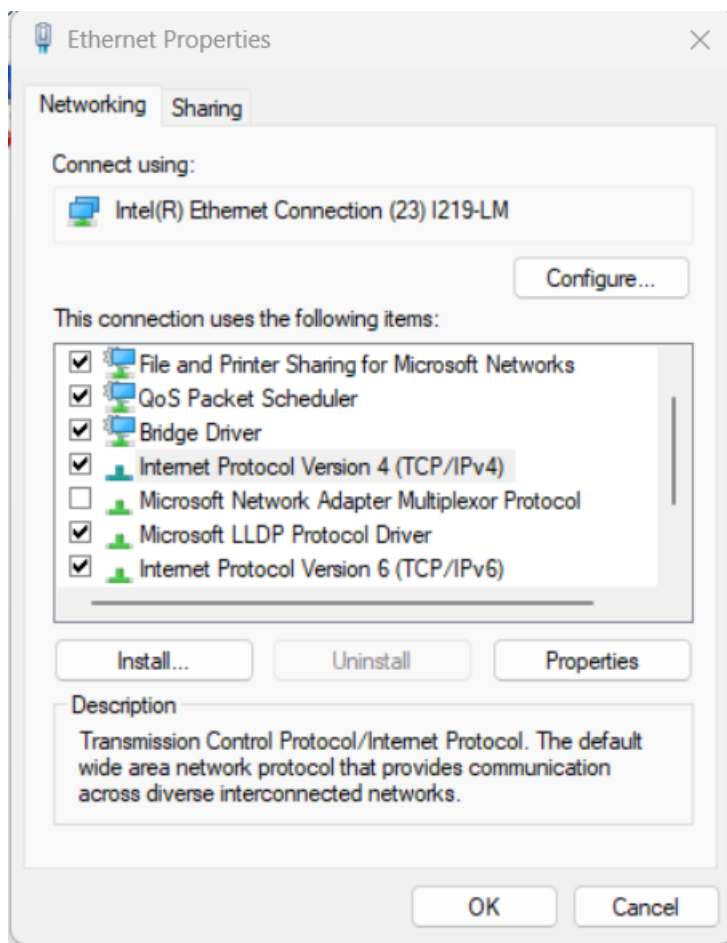
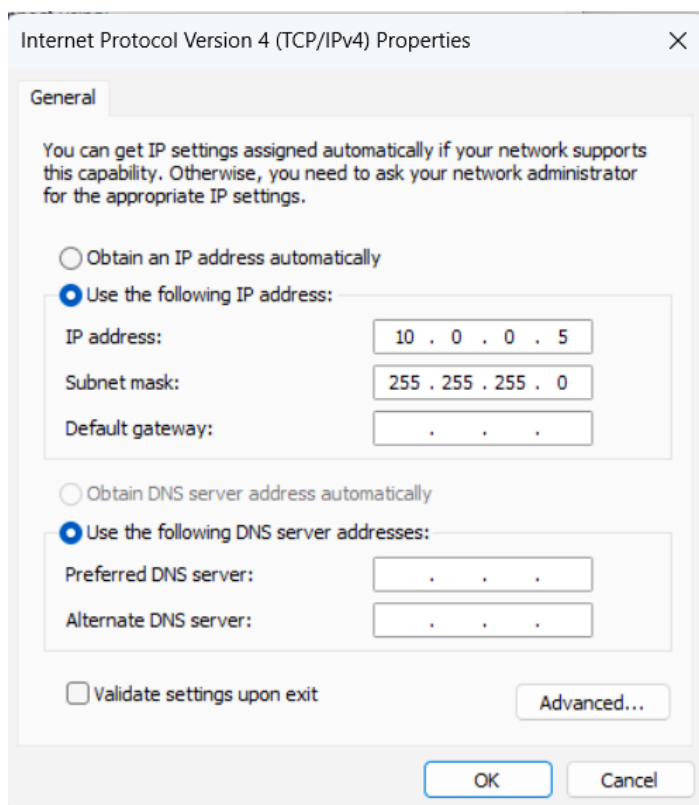

Figure 3-3. Ethernet Properties
Figure 3-4. TCP/IPv4 Settings
5. Select **Properties** (see Figure 3-3). This opens the **Internet Protocol Version 4 (TCP / IPv4) Properties** window (see Figure 3-4).
6. Enter the following settings in the **Internet Protocol Version 4 (TCP / IPv4) Properties** window (see Figure 3-4):